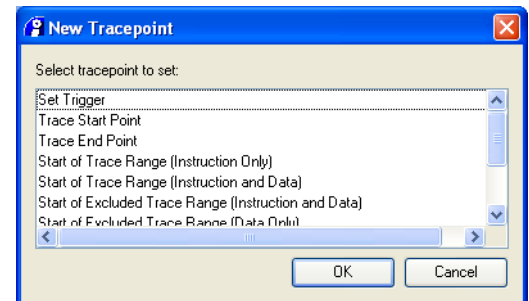

Figure 6-3 New Tracepoint dialog box
2. Select **Insert Tracepoint...** from the context menu to display the New Tracepoint dialog box. Figure 6-3 shows an example:
6. Select **Insert Tracepoint...** from the context menu to display the New Tracepoint dialog box. Figure 6-3 on page 6-7 shows an example.